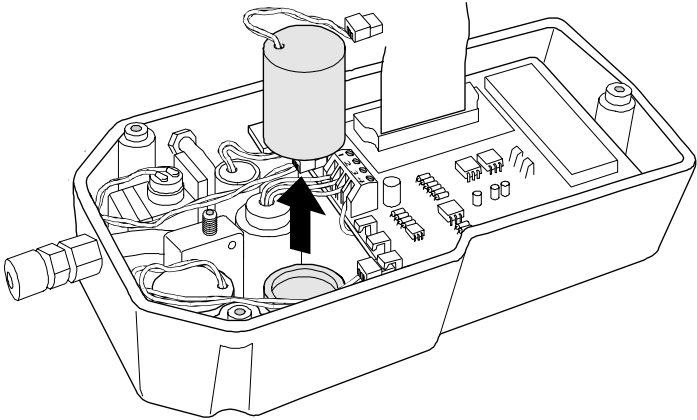

Figure 6-2 Removing a Sensor from the GT
5. Using your fingers, tilt the sensor from side to side to loosen it, then pull the sensor straight out of its flow block cavity (see Figure 6-2).